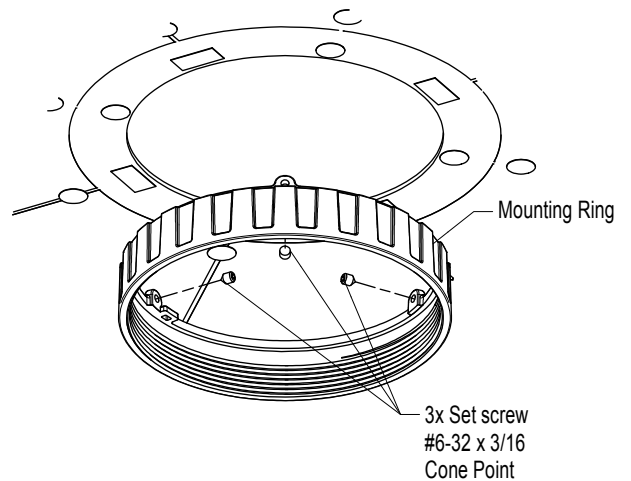
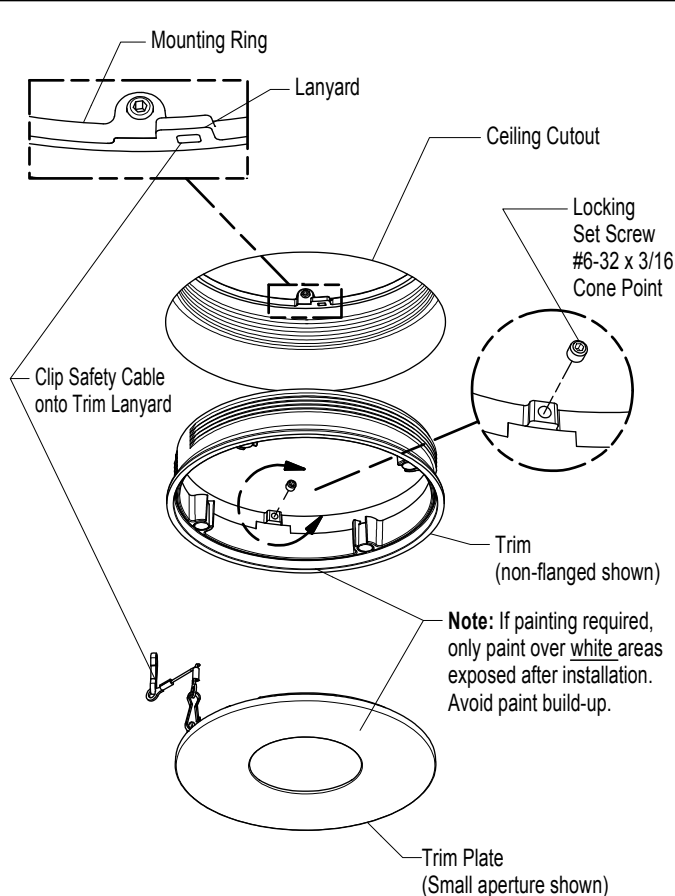
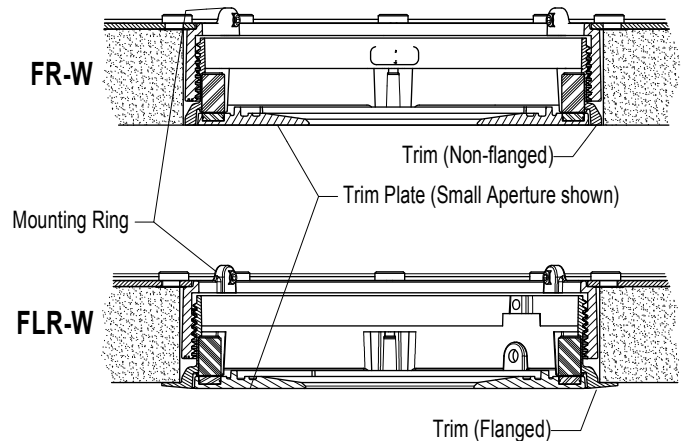

FIG 3.2 Install Mounting Ring
FIG 3.3 Install Trim & Trim Plate
FIG 3.5 Ceiling Section Views
STEP 4 If required, paint Trim & Trim Plate (see note in FIG 3.3).
STEP 5 Insert Mounting Ring lip fully into Housing & fasten with 3x Set Screws using allen key supplied-**Do Not overtighten**. Mounting Ring can be installed with or without ceiling in place - FIG 3.2. **Note:** After Trim installation (FIG 3.3) the Mounting Ring may need to be rotated to align the Trim - FIG 3.5.
STEP 6 Thread Trim into Mounting Ring. For Non-Flanged (FR-W), adjust height to be level with ceiling. For Flanged (FLR-W) version, flange must seat flush to ceiling - FIG 3.3 & FIG 3.5.
STEP 8 Attach Trim Plate Safety Cable to Mounting Ring - FIG 3.3.